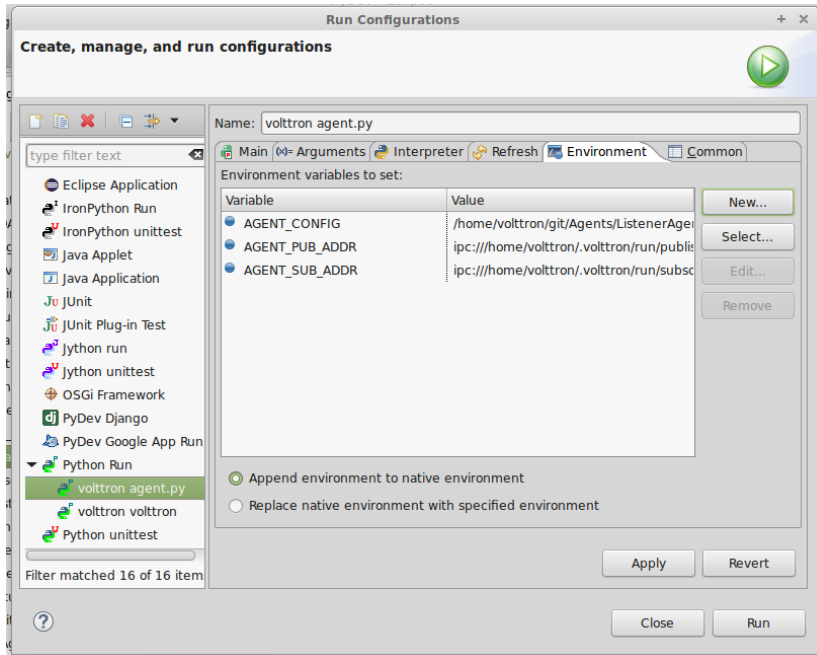

Figure 76: Configuring the Listener Agent, Setting Up a Run Configuration (Continued)
7. Click Run, this launches the agent (Figure 76)